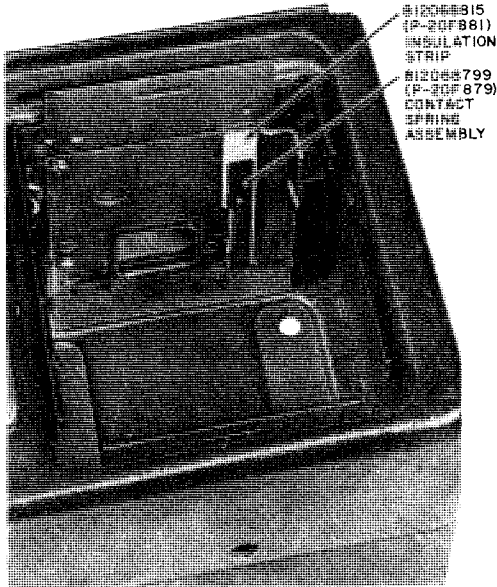
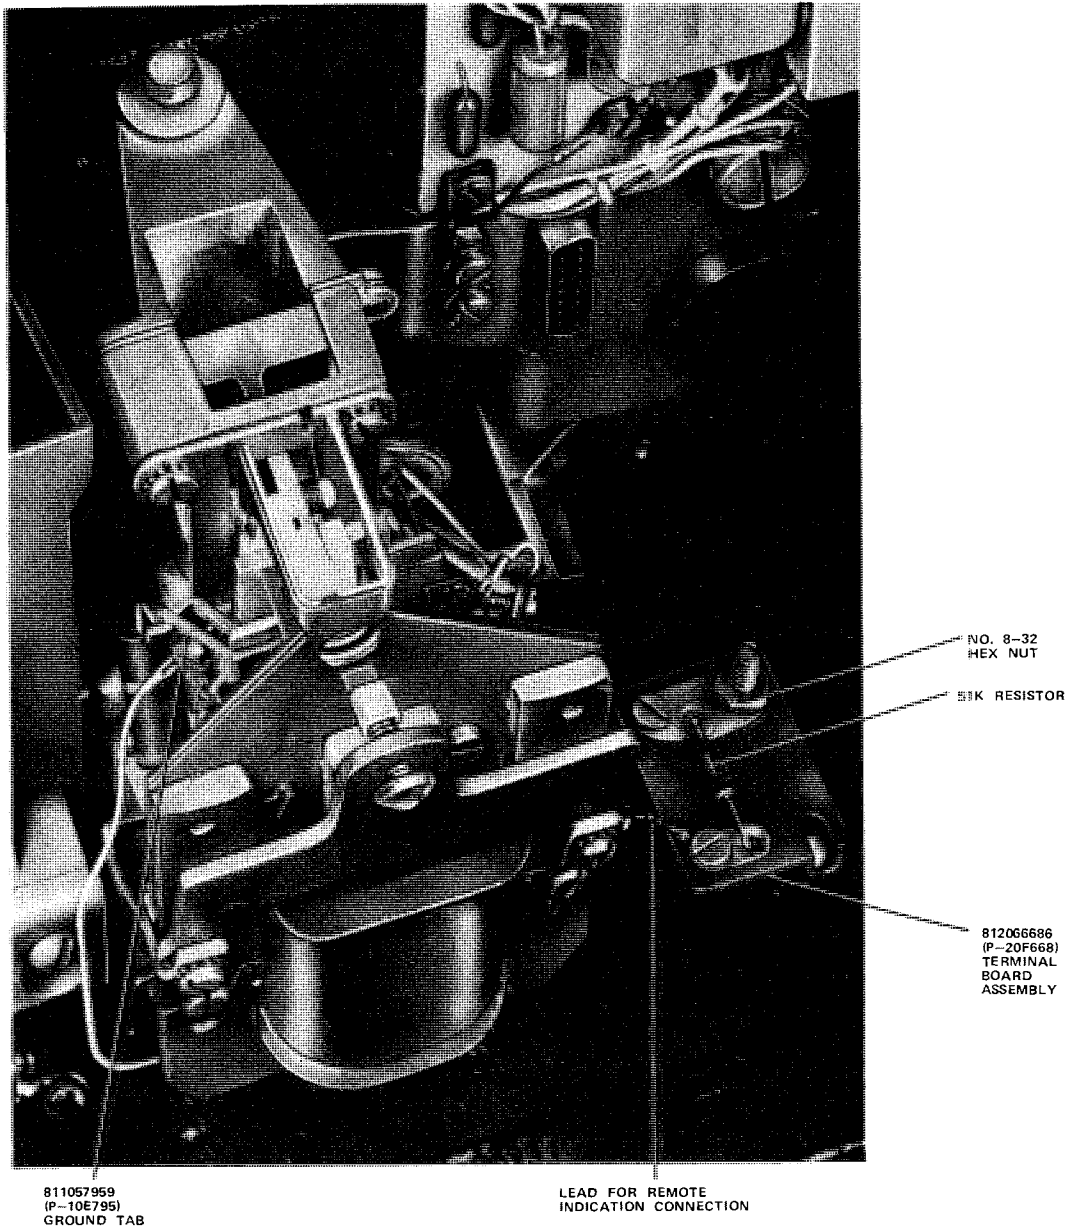

Fig. 7—Installation of Insulation Strip and Contact Spring Assembly
Fig. 8—Installation of Terminal Board Assembly
- (4) Using the 1/4-inch drill described in paragraph 3.01, drill the hole through the housing.
- (5) Remove the screw and drilling template.
- (6) Using the 1/4-inch drill, enlarge the hole where the screw was removed.
- (7) Using a suitable file, remove all burrs from the 1B rail.
- (8) Remove the C-clamp.
- (9) Remove all drill chips from the telephone set.
- (10) Position the insulation strip against the 1B rail with the boss on the strip in the 1/4-inch mounting screw hole (Fig. 7). Hold the contact springs in place with the stud extending through the hole drilled in the base, and fasten the terminal board in place on the housing base with the nut and lockwasher provided (Fig. 8).
(8) Position the insulation strip against the 1B rail with the boss on the strip in the 1/4-inch mounting screw hole (Fig. 7). Hold the contact springs in place with the stud extending through
the hole drilled in the base, and fasten the terminal board in place on the housing base with the nut and blockwasher provided (Fig. 8).
relay (Fig. 8). Care must be taken not to alter the adjustment of the coin relay by bending the spring member. Connect the spade tip of the lead to the front terminal on the terminal board.